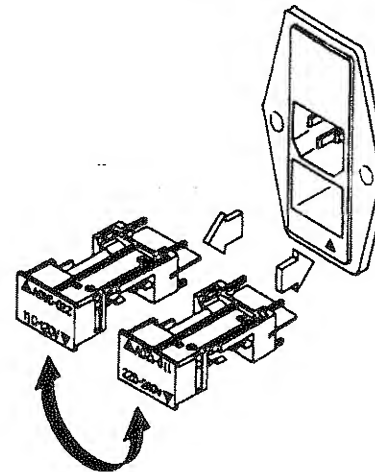

Figure 2-2. Selecting Line Voltage
- Carefully pry at the top center of the module as shown in figure 2-2, until it can be grasped and pulled out.